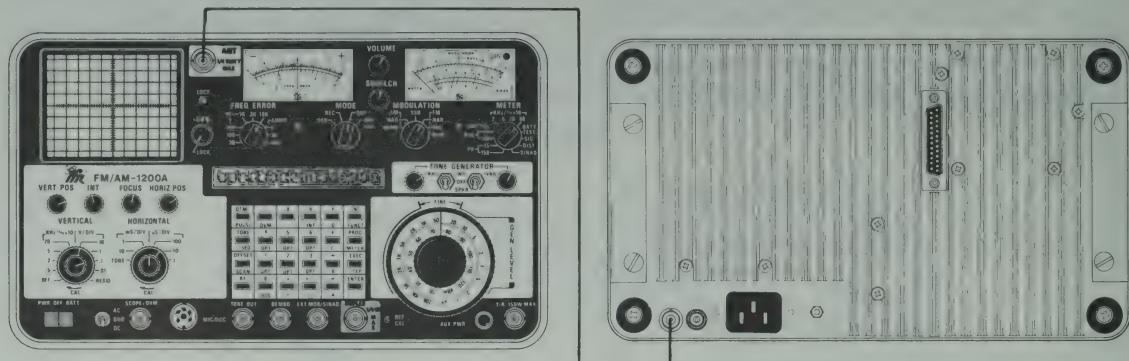

Figure C-1 Performance Test Set-Up Diagram
2. Connect 2-foot length of 50Ω coaxial cable between ANT Connector (34) and External Reference Connector (46) as shown in Figure C-1.
3. Place PWR/OFF/BATT Switch (22) to either "PWR" or "BATT" position and observe the following indications: